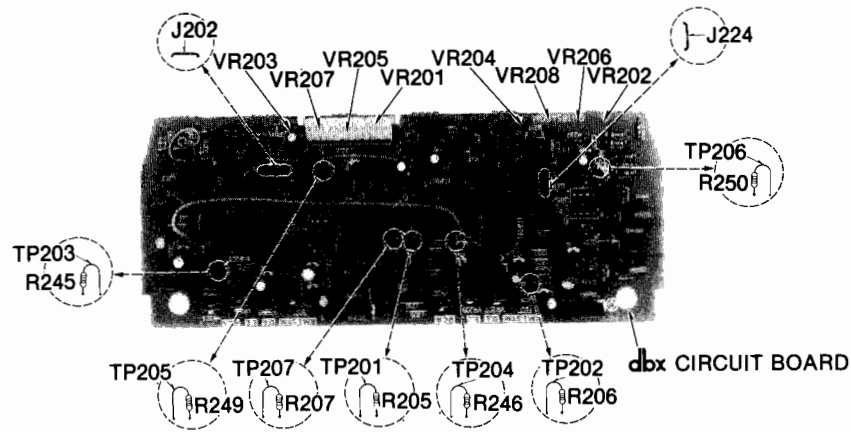
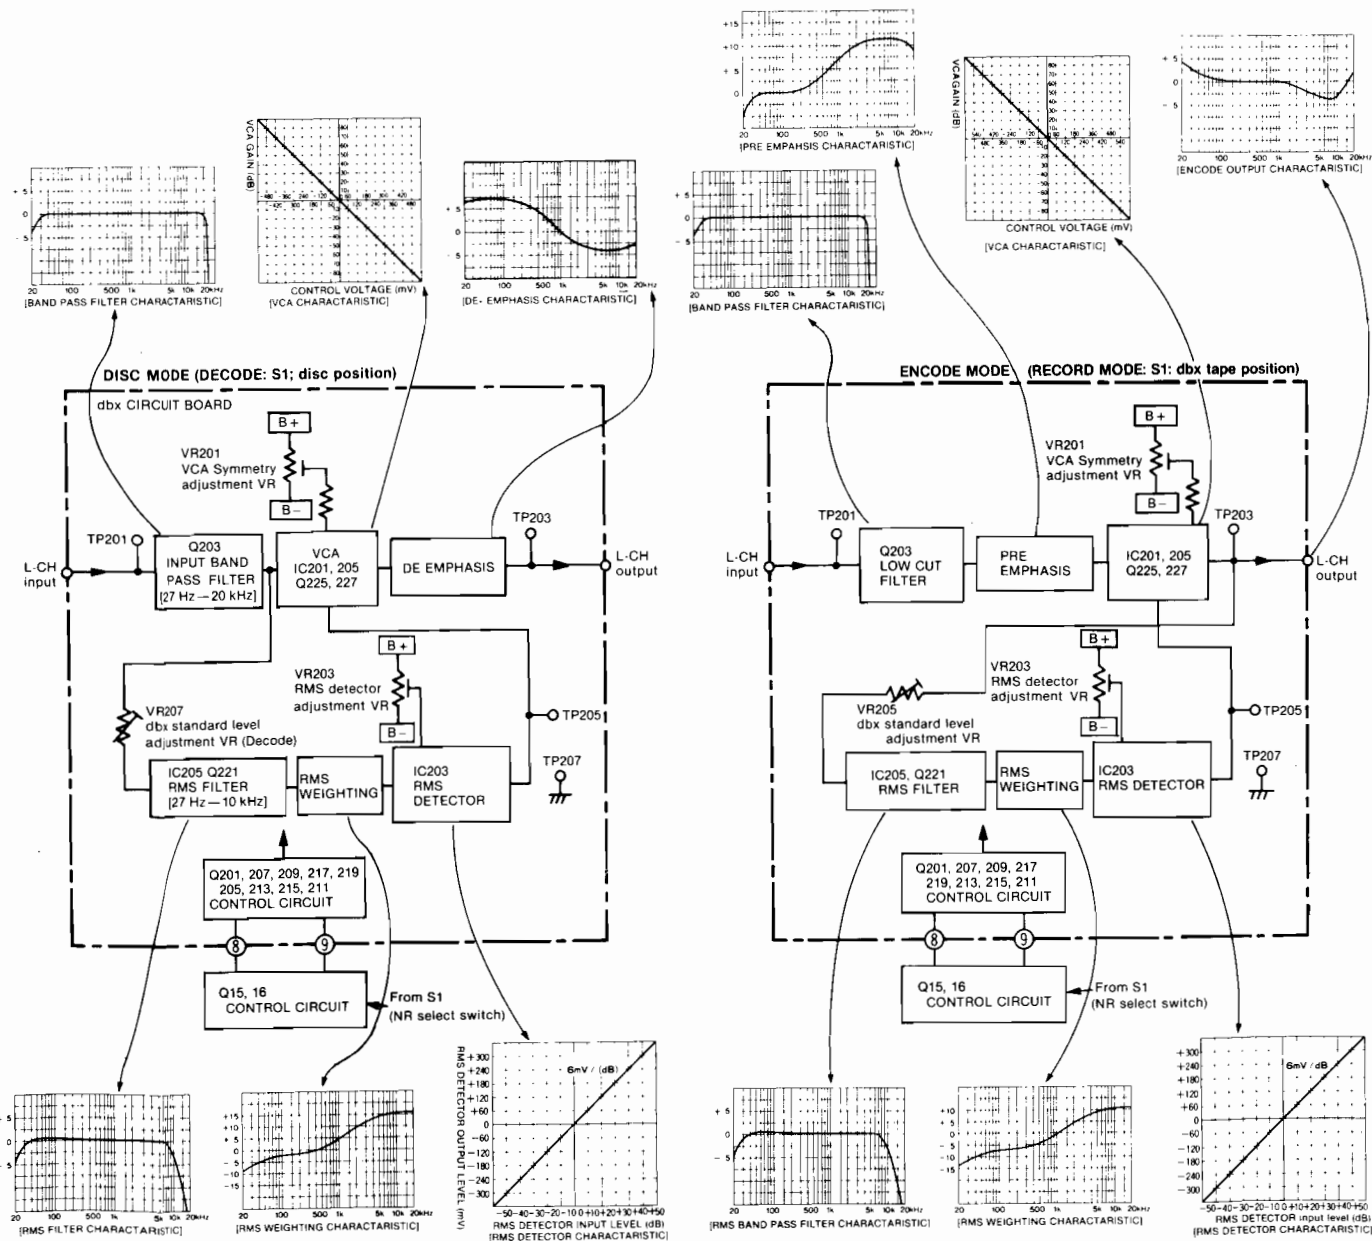

Fig. 2
Fig. 3
<p>A Head azimuth adjustment</p> <p>Condition:</p> <ul style="list-style-type: none"> • Playback mode <p>Equipment:</p> <ul style="list-style-type: none"> • VTVM • Oscilloscope • Test tape (azimuth) ... QZZCFM 	<p>L-CH/R-CH output balance adjustment</p> <ol style="list-style-type: none"> 1. Make connections as shown in fig. 2.  <p>Fig. 2</p> <ol style="list-style-type: none"> 2. Playback the 8kHz signal from the test tape (QZZCFM). Adjust screw (B) in fig. 3 for maximum output L-CH and R-CH levels. When the output levels of L-CH and R-CH are not at maximum at the same time, readjust as follows. 3. Turn the screw shown in fig. 3 to find angles A and C (points where peak output levels for left and right channels are obtained). Then, locate the angle B between angles A and C, i.e. a point where L-CH and R-CH output levels come together at maximum. (Refer to figs. 3 and 4.)  <p>Fig. 3</p>  <p>Fig. 4</p> <p>L-CH/R-CH phase adjustment</p> <ol style="list-style-type: none"> 4. Make connections as shown in fig. 5. 5. Playback the 8kHz signal from the test tape (QZZCFM). Adjust screw (B) shown in fig. 3 so that pointers of the two VTVMs swing to maximum and a waveform as illustrated in fig. 6 is obtained on the oscilloscope.  <p>Fig. 5</p>  <p>Fig. 6</p>
<p>C Playback frequency response</p> <p>Condition:</p> <ul style="list-style-type: none"> • Playback mode • Normal tape mode <p>Equipment:</p> <ul style="list-style-type: none"> • VTVM • Oscilloscope • Test tape ... QZZCFM 	<ol style="list-style-type: none"> 1. Test equipment connection is shown in fig. 2. 2. Place UNIT into playback mode. 3. Playback the frequency response test tape (QZZCFM). 4. Measure output level at 12.5kHz, 8kHz, 4kHz, 1kHz, 250Hz, 125Hz and 63Hz, and compare each output level with the standard frequency 315Hz, at LINE OUT. 5. Make measurement for both channels. 6. Make sure that the measured value is within the range specified in the frequency response chart (Shown in fig. 8.) <div data-bbox="900 331 1449 607" style="border: 1px solid black; padding: 5px;"> <p style="text-align: center;">Playback frequency response chart</p> </div> <p style="text-align: center;">Fig. 8</p>
<p>D Playback gain</p> <p>Condition:</p> <ul style="list-style-type: none"> • Playback mode • Normal tape mode <p>Equipment:</p> <ul style="list-style-type: none"> • VTVM • Oscilloscope • Test tape ... QZZCFM 	<ol style="list-style-type: none"> 1. Test equipment connection is shown in fig. 2 2. Playback standard recording level portion on test tape (QZZCFM 315Hz, 0dB), and using VTVM measure the output level at LINE OUT jack. 3. Make measurement for both channels. <div data-bbox="523 824 1406 898" style="border: 1px solid black; padding: 5px;"> <p>Standard value: 0.7V ± 0.1 dB (around 0.42V: at test points TP802 (L-CH) and TP802 (R-CH))</p> </div> <p>Adjustment</p> <ol style="list-style-type: none"> 1. If measured value is not within standard, adjust VR3 (L-CH), VR4 (R-CH) (shown in fig. 1) 2. After adjustment, check "Playback frequency response" again
<p>② Adjustment of VCA</p> <p>Condition:</p> <ul style="list-style-type: none"> * Record stop mode * Input level controls ... MAX * Noise reduction selector ... disc/dbx tape <p>Equipment:</p> <ul style="list-style-type: none"> * VTVM * Oscilloscope * Resistor (100Ω, 3.9Ω) 	<p>Preparation before adjustment</p> <ol style="list-style-type: none"> 1. Before adjusting VCA, from the device shown below using resistors of 100Ω and 3.9Ω. 2. Set NR switch to dbx disc. Remove jumpers [J202 (L-CH) and J224 (R-CH)]. 3. Arrange connections referring to wire connection diagram (fig. 9 and 10), since 0V, +180mV and -180mV (DC) are applied in this order to pin 2 of IC201 (L-CH) and pin 2 of IC202 (R-CH).  <p>Fig. 8</p>  <p>Fig. 9</p> <p>Connections when applying +180mV and 0V</p> <p>Adjust DC power supply and arrange connections so that +180mV or 0V can be applied to TP203 (L-CH) and TP204 (R-CH).</p>  <p>Fig. 10</p> <p>Connections when applying -180mV</p> <p>Adjust DC power supply and arrange connections so that -180mV can be applied to TP203 (L-CH) and TP204 (R-CH).</p> <p>Adjustment procedure</p> <ol style="list-style-type: none"> 1. Apply 0V to pin ② of IC201 (L-CH) and pin ② of IC202 (R-CH), and a horizontal line will appear on the screen of the oscilloscope. Use this line as the reference line. 2. Apply +180mV to pin ② of IC201 (L-CH) and pin ② of IC202 (R-CH) (See fig. 9), and check that the level is not more than 10mV from the reference line. If improper, adjust VR201 (L-CH) and VR202 (R-CH). 3. In the same way, apply -180mV to pin ② of IC201 (L-CH) and pin ② of IC203 (R-CH) (See fig. 10), and check that the level is not more than 10mV from the reference line. If improper, adjust VR201 (L-CH) and VR202 (R-CH). 4. Repeat steps 2 and 3, and adjust VRs so that the levels are within ±10mV when +180mV and -180mV are applied (fig. 11). 5. After adjustment, connect jumpers J202 (L-CH) and J224 (R-CH) (See fig. 2).  <p>Fig. 11</p> <p>When 0V is applied to pin ② of IC201 (L-CH) and pin ② of IC202 (R-CH), this horizontal line appears.</p>